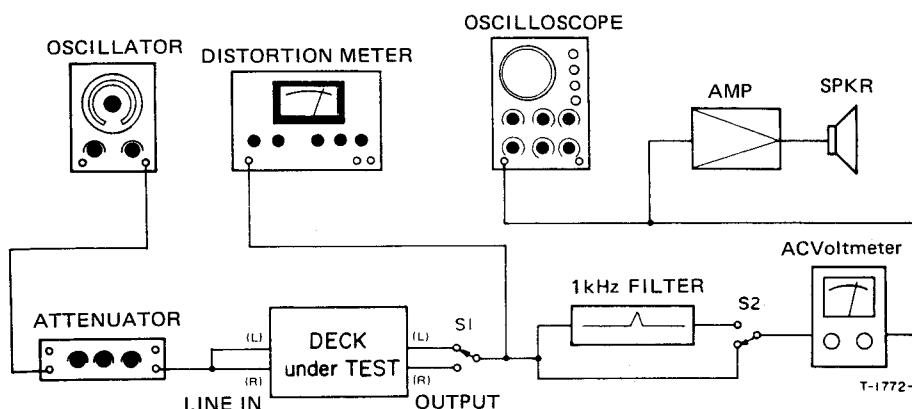

Fig. 5-1 Basic test setup
19. Erase efficiency	- Connection is same as in Fig. 5-1, but engage 1-kHz filter. - Record a 1-kHz signal. Rewind tape to midpoint of recorded portion. Record a "no signal" portion. Find the difference between the 1-kHz portion and the "no-signal" portion.
20. REC MUTE function	- Connection: Fig. 5-1, but engage 1-kHz filter. - Record a 1-kHz signal. Push REC MUTE button for several seconds. Rewind and play the tape. Find the difference between the 1-kHz portion and the "no-signal" portion.
21. Channel separation	- Connection: Fig. 5-1, but do not connect LINE IN (R), and engage 1-kHz filter. - Set the deck to record mode. Find the difference between the 1-kHz recorded portion (L-ch) and the "no signal" portion (R-ch).
22. Adjacent track crosstalk	- Connection: Fig. 5-1, but do not connect LINE IN (L) and OUTPUT (L). - Record a 125 Hz signal on R-ch and note output level. Invert tape and play R-ch track. Check leakage level against the output reference of previously recorded portion.